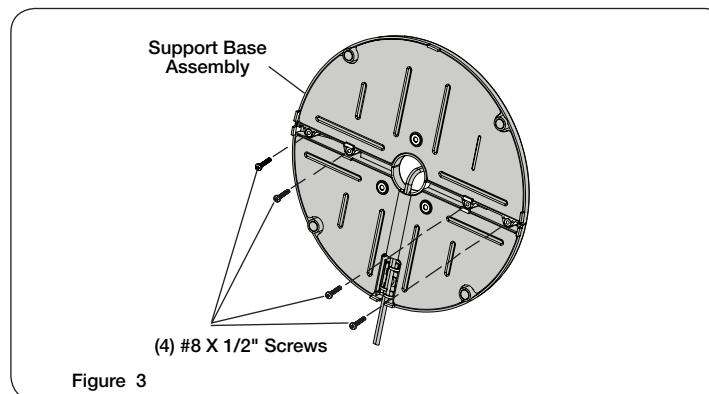

Figure 3
4. Secure (4) #8 x 1/2" Screws into the four holes in the bottom of the Base. (Figure 3)